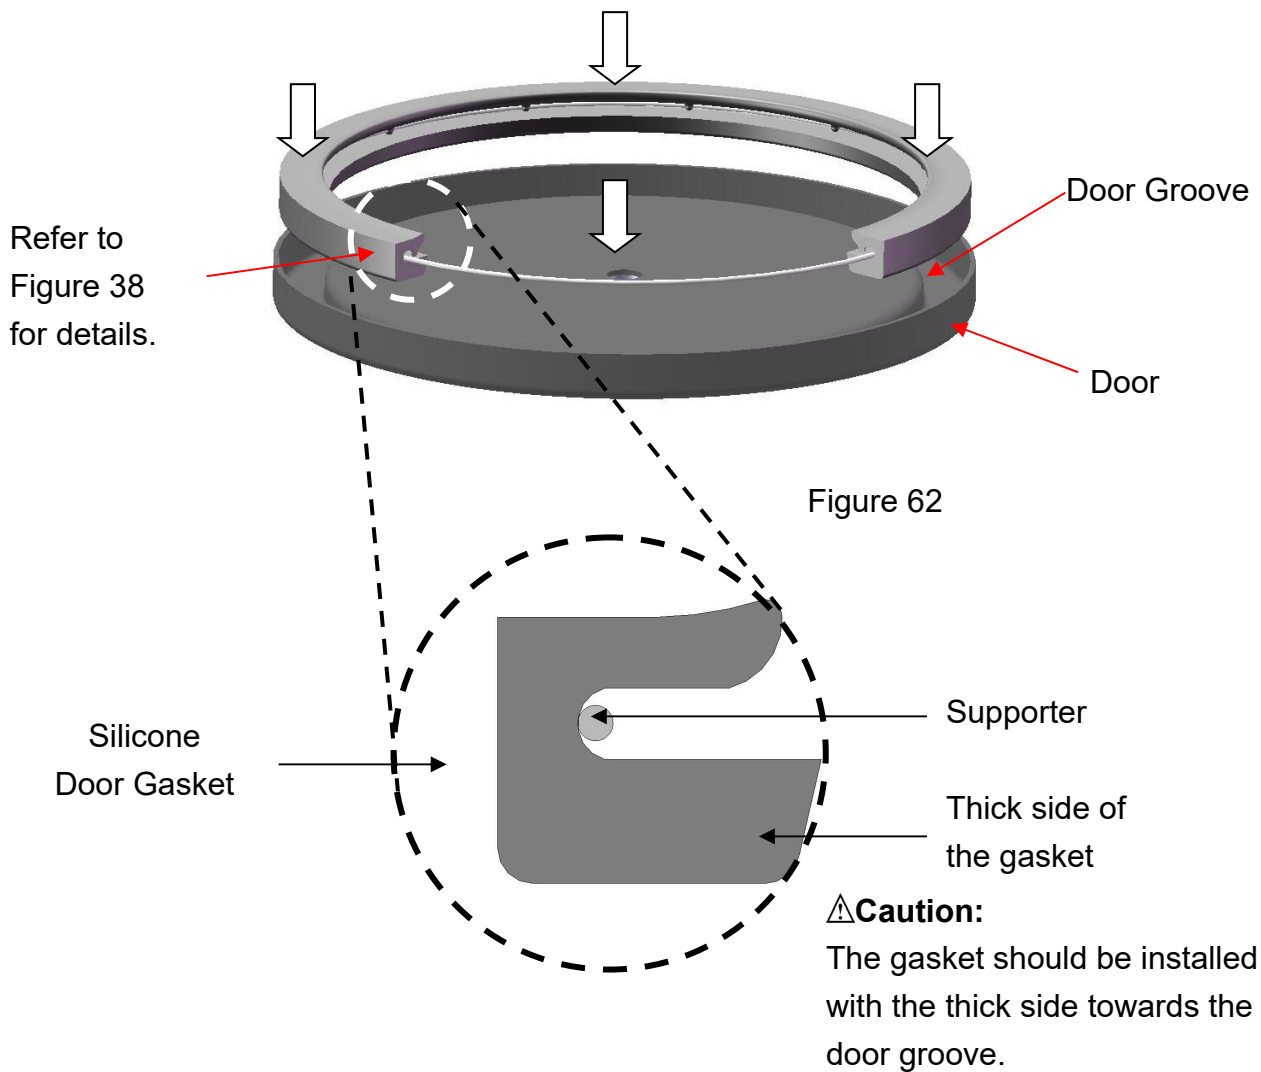

Figure 63
5. Figure 63 for the correct direction.